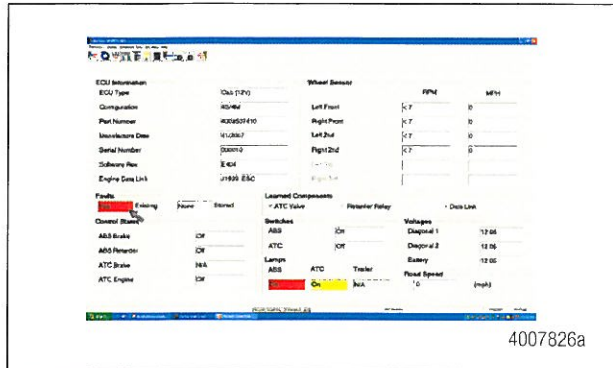

Figure 16
1. To verify the status of the ESC initialization, double-click on the fault box from the initial screen. Figure 16.